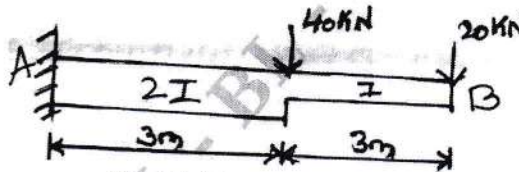

Fig.Q1(b)
b. Find the slope and deflection at free end of the cantilever beam shown in Fig.Q1(b) by moment area method.